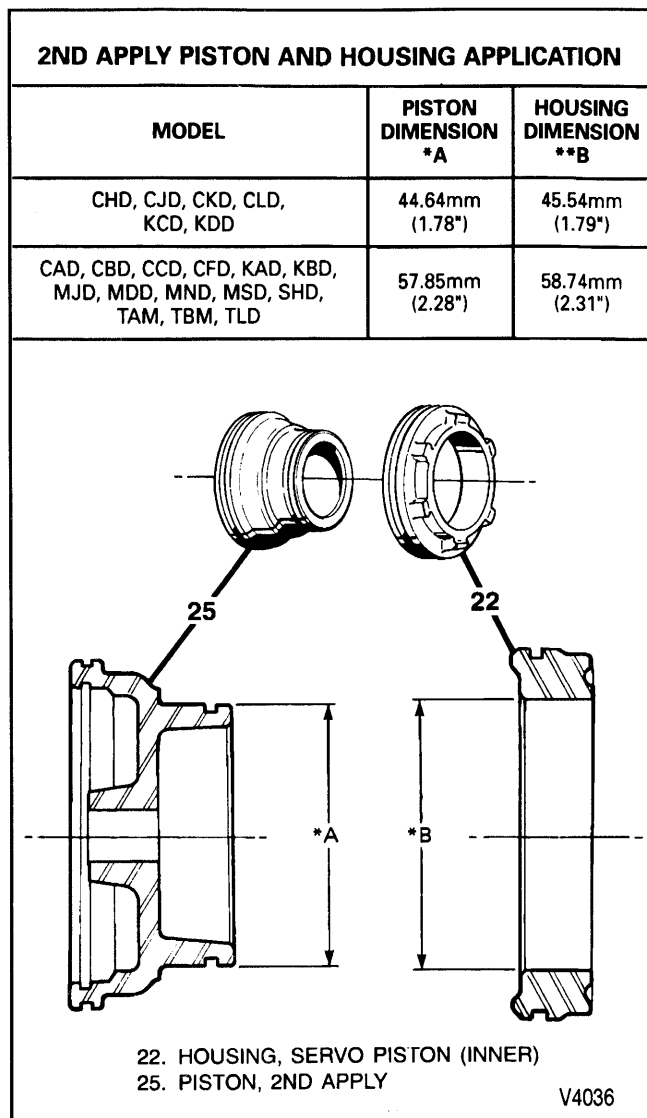

Figure 9—2nd Apply Piston and Housing Dimensions
2. Piston and housing dimension (figure 9).
A. Measure the piston dimension (A).
B. Measure the housing dimension (B).